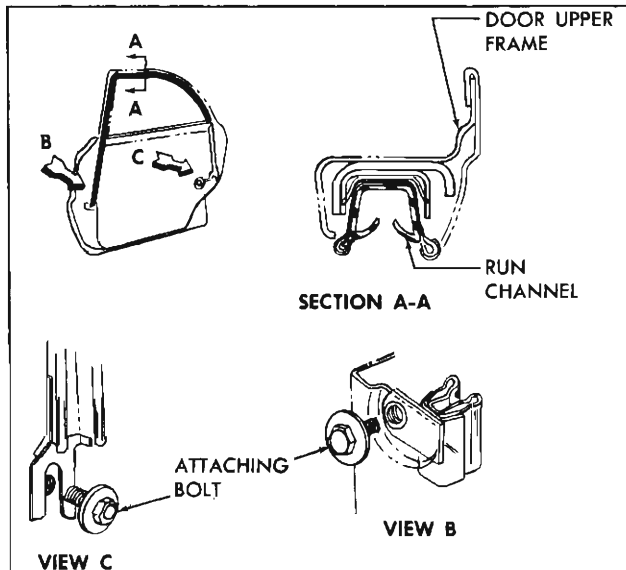

Fig. 57—Rear Door Window Glass Run Channel Assembly
3. In the event of an excessively loose door glass, the run channels can be moved closer to glass by adding shim(s) (washers—not a service part) between door lock or hinge pillar panel and run channel at attaching bolt locations. Figure 57 shows glass run channel attaching bolt locations on B-69 styles.